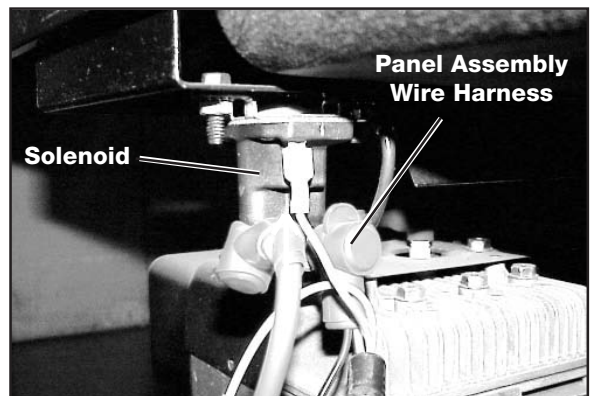

Figure 4
4. Locate the solenoid on the left side of the unit. See Figure 4 and 5.
5. Remove the nut from the solenoid post with the panel assembly wire harness. Place one end of the positive (red) battery cable onto this post with the panel assembly wire. Reassemble nut and tighten securely. See Figures 4.